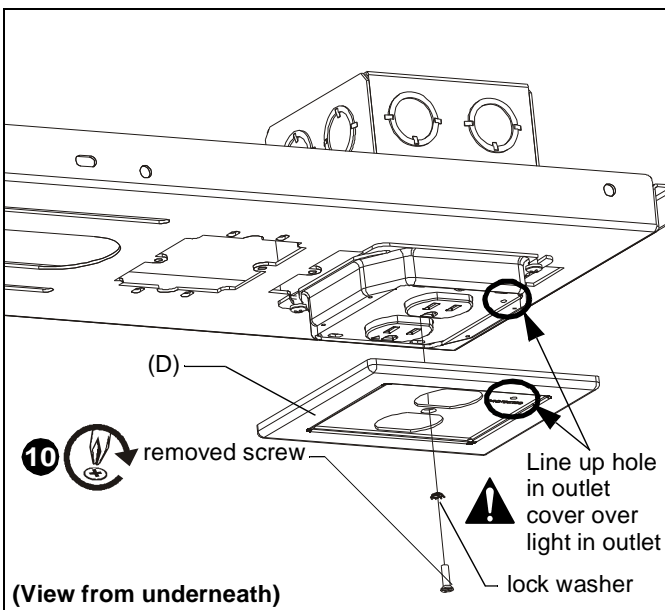

Figure 6
10. Install outlet cover (D) over outlet box using removed #06-32 x 1/2" Phillips flat head screw and #06 lock washer. (See Figure 6)